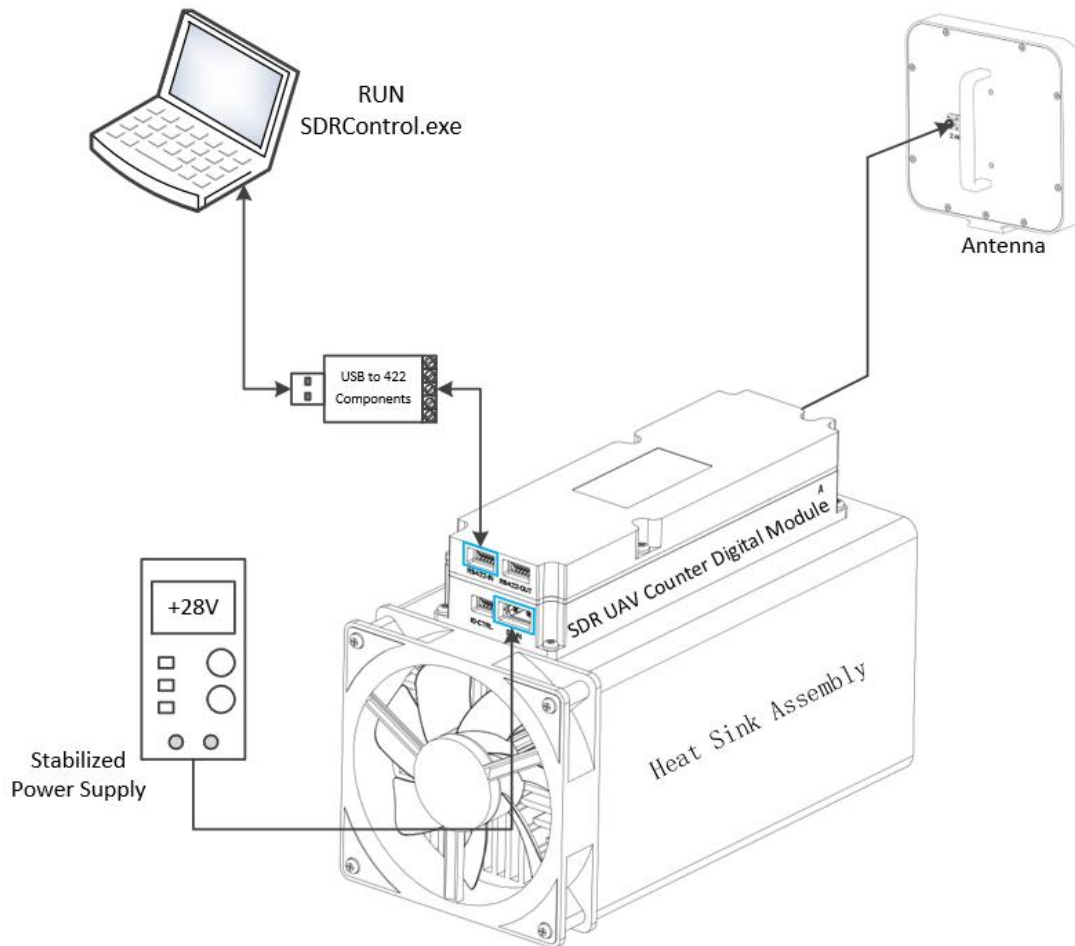

Figure 7
1. Connect the module to the computer according to Figure 7